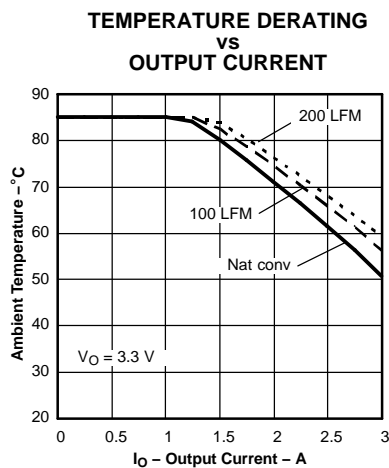
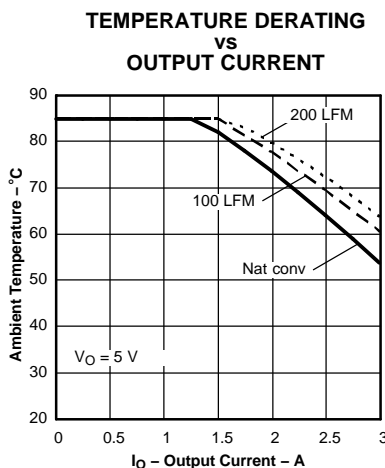

Figure 9.
Figure 10.
- (4) The temperature derating curves represent the conditions at which internal components are at or below the manufacturer's maximum operating temperatures. Derating limits apply to modules soldered directly to a 100 mm x 100 mm, double-sided PCB with 2 oz. copper. Applies to Figure 9 and Figure 10.